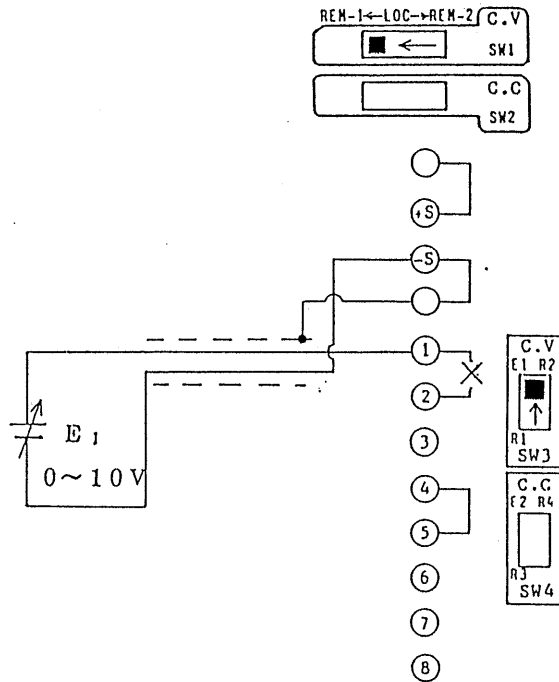

Figure 4-4
- (1) Turn off the POWER switch.
- (2) Disconnect the jumper from between terminals ① and ② of the rear terminal block.
- (3) Throw the SW1 switch on the rear panel to REM-1.
- (4) Throw the SW3 switch on the rear panel to E1.
- (5) Connect the remote control voltage signal (E1) to between terminals ⊕ and ①, with terminal ① for the positive polarity line.
- (6) Turn on the POWER switch. (Turn on the OUTPUT switch.)
- (7) Adjust offset(at zero volts)with the V.os control of the service panel.
- (8) Regarding the switches for which no settings are specified in Figure 4-4, set them to the standard states as shown in Figure 2-25 (See Section 2.4.) or to appropriate states for respective modes (See Sections 4.1 through 4.11.).